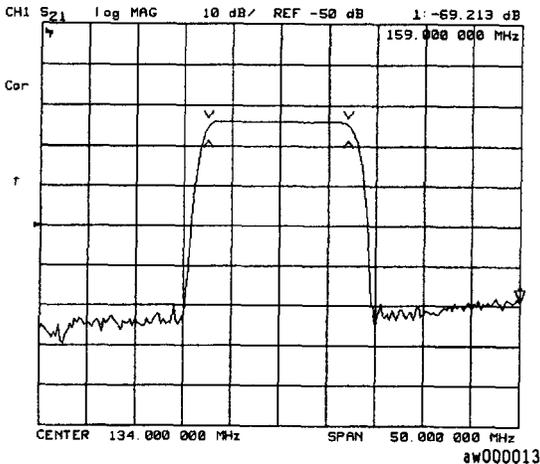

Figure 2-10. Example Single Point Limit Lines
- To designate a single point limit line, as shown in Figure 2-10, you must define two pointers: